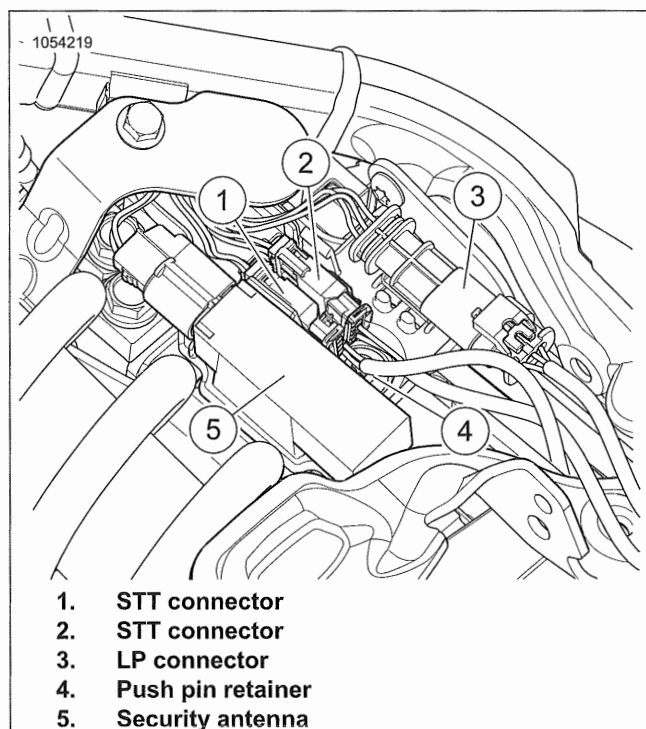

Figure 7-151. Rear Lighting Caddy
1. See Figure 7-151. Remove security antenna (5).
- a. Remove push pin retainer (4).
- b. See Figure 7-151. Install push pin retainer (4).
2. Install LP connector (3).
4. Install security antenna (5).